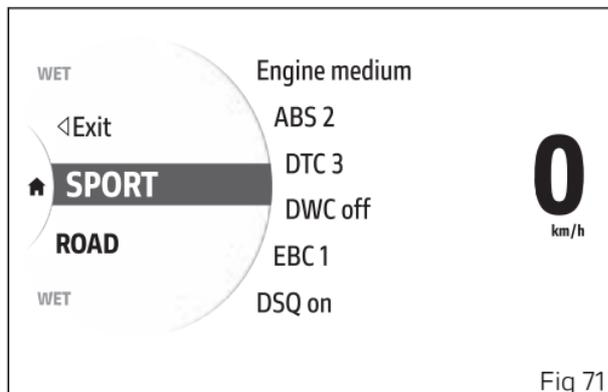

Fig 71
- Press and hold the MODE/ENTER button (3) for a long time.
- The dedicated screen is displayed (Fig 71) where, using buttons (1) and (2), it is possible to scroll through the available Riding Modes and display the parameters with the relevant set values.
- Press the MODE/ENTER button (3) to confirm.